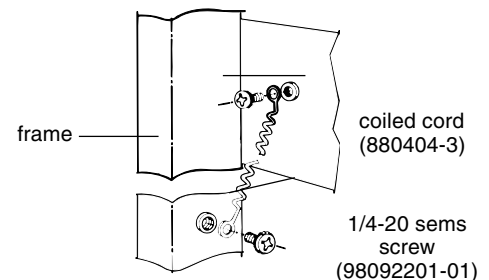

Figure 2
1. Using 1/4-20 sems screws provided, attach one end of coiled cord to threaded insert located on shelf edge and other end to one of the frame's two (2) threaded grounding locations. Tighten screws. (Figure 2)